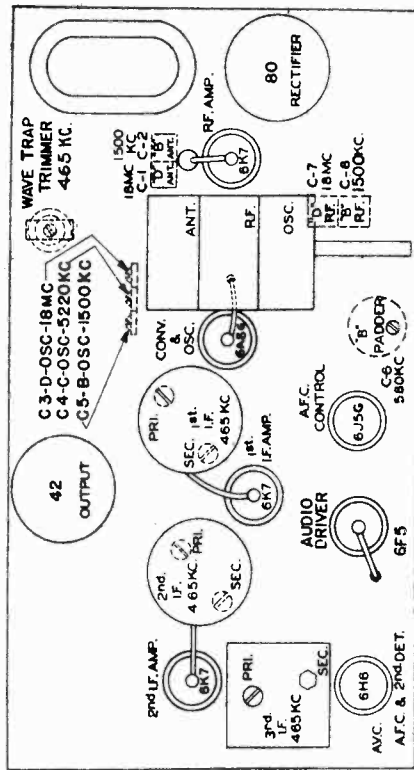

Fig. 2. Chassis Layout and Trimmer Location
- The alignment procedure is given in table form along with the trimmer location drawing, Fig. 2. A "dummy antenna" should be used in all alignments and is the signal generator capacitor and resistor, used in series with the signal generator. The grid lead should not be removed from the tube as this would remove the grid from the tube.